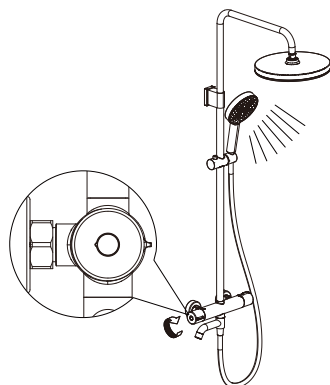

Figure 14B
- ② Turn the water diversion handwheel backward, and the top sprinkler will discharge water, as shown in Figure 14B.